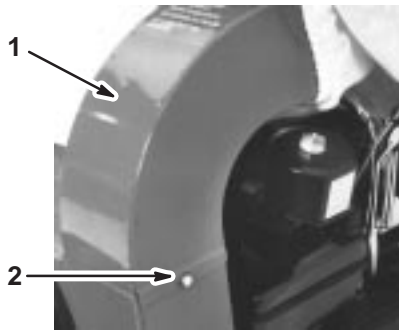

Figure 7
1. Install the discharge chute and secure it with a bolt (1/4 in.) and lock washer (Fig. 7).